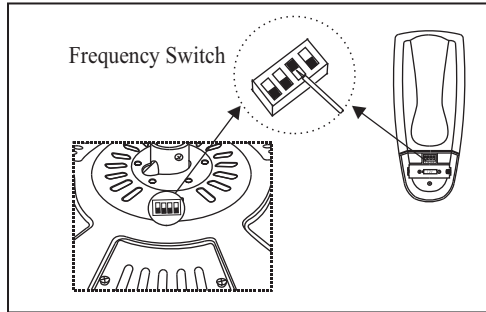

Figure 17
1. The receiver frequency selector is located on the top of the motor assembly plate as show in Fig. 17.
2. The transmitter frequency selector is located in the battery compartment as shown in Fig. 17. Each frequency selector has 4 switches, you may use any number of possible combinations but you must set each switch in the transmitter to match the same switch in the receiver.